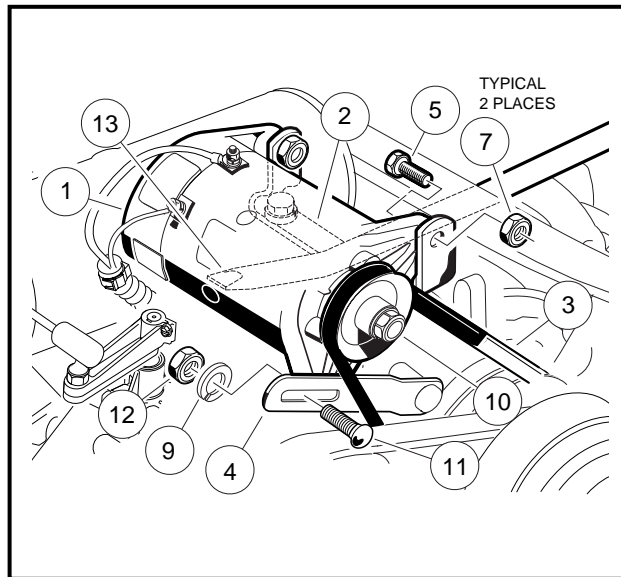
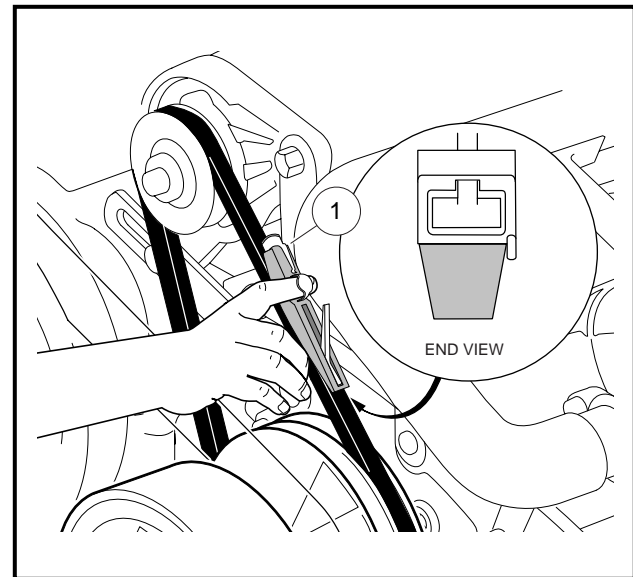

Figure 12-14 Starter/Generator Installation
Figure 12-15 Belt Tension Gauge
2. Install two 3/8 hex head pivot bolts (5) into the mounting bracket with the heads of the bolts facing towards the driver side of the vehicle. Position the starter/generator in the mounting bracket so that the bolts will go through the starter/generator before going through the bracket. Install a locknut (7) onto each bolt. Tighten to finger tight **(Figure 12-14, Page 12-12)**.
3. Install the adjustment bolt (11) through the adjusting bracket (4) and then through the starter/generator. Install a lockwasher (9) and 5/16 nut (12) onto the end of the adjustment bolt (11). Tighten to finger tight (**Figure 12-14, Page 12-12**).
4. Install the belt (3), then tighten the mounting bolts. **See Belt Tension Adjustment on page 12-12.**
3. Make sure the two pivot bolts (5) on the mounting bracket are finger tight. The carriage bolt (11) and hex nut (12) are to be finger tight also (**Figure 12-14, Page 12-12**).
4. Push the starter/generator down so it is at the lowest point of its adjustment travel. With the starter/generator belt fully in place around the drive clutch pulley, install the starter/generator belt (3) around the pulley (10) on the end of the starter/generator.
5. Position a pry bar (13) between the top of the starter/generator mounting bracket (2) and the underside of the starter/generator by passing the pry bar under the exhaust header.
6. While holding the pry bar, measure the belt tension using a Krikit[®] gauge (1) (available at NAPA[®] Auto Parts stores), or equivalent. Proper tension for a new starter/generator belt should be 75 ft-lb (101.7 N-m) or for an existing belt, 45 ft-lb (61 N-m) (**Figure 12-15, Page 12-12**).
7. While maintaining the tension, tighten the adjustment nut (12) to 12 ft-lb (16.3 N-m). Tighten the two pivot bolts (5) and hex nuts (7) to 23 ft-lb (31.2 N-m) (**Figure 12-14, Page 12-12**). **See following CAUTION.**